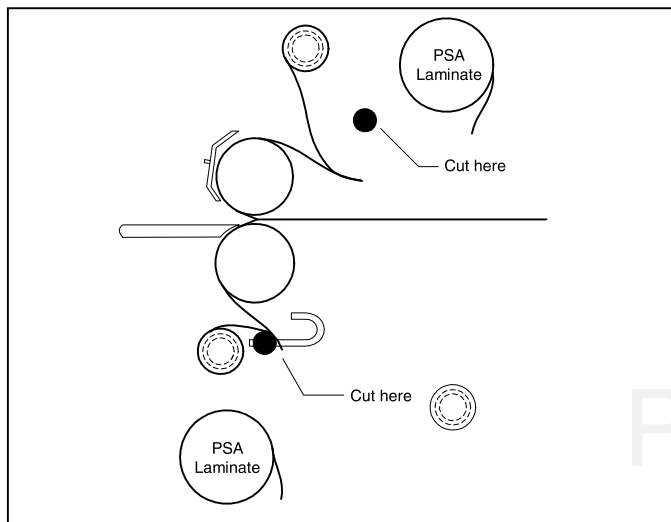

Fig. 27
5. Cut remaining top and bottom film web just behind the web idlers. (Figure 27). PSA Adhesive, cut near the roll of material. **Be careful not to cut any of the rollers!**